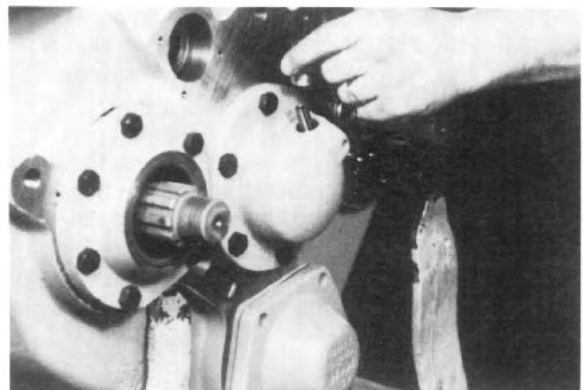

Fig. 29
16. Install the speedometer driven gear (Item 27) and speedometer driven gear sleeve (Item 26) in speedometer cap (See Fig. 29).